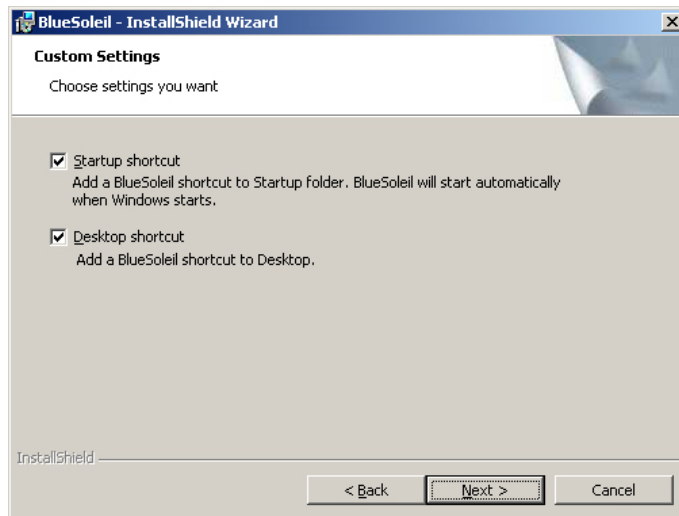

Figure 7-49: Bluetooth Driver Setup Options
Step 12: The **Custom Settings** screen in Figure 7-49 appears next.
Step 13: Select the required installation configuration in Figure 7-49 and click **NEXT** to continue.